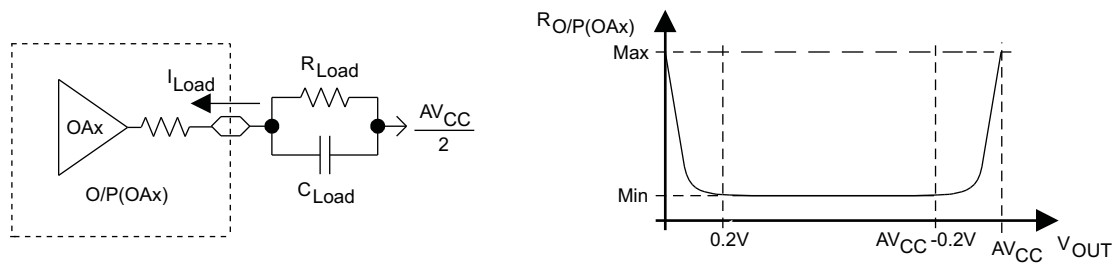

Figure 5-29. OAx Output Resistance Tests
| R O/P (OAx) Output resistance (4) (see Figure 5-29) | R Load = 3 kΩ, C Load = 50 pF, RRIP ON, V O/P(OAx) < 0.2 V                            | 2.2 V, 3 V      |                       | 150                   | 250             | Ω      |